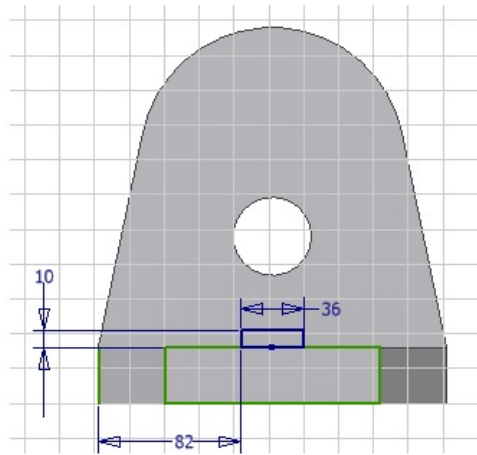

Figure 5-85 Dimensioned sketch for the feature on the front face
3. Delete the reference geometries, if any, and then draw a rectangle as the sketch for the next feature, as shown in Figure 5-85. Add the **Collinear Constraint** between the lower edge of the rectangle and the upper edge of the front face of the base feature.
4. Add the required dimensions to the sketch, refer to Figure 5-85.